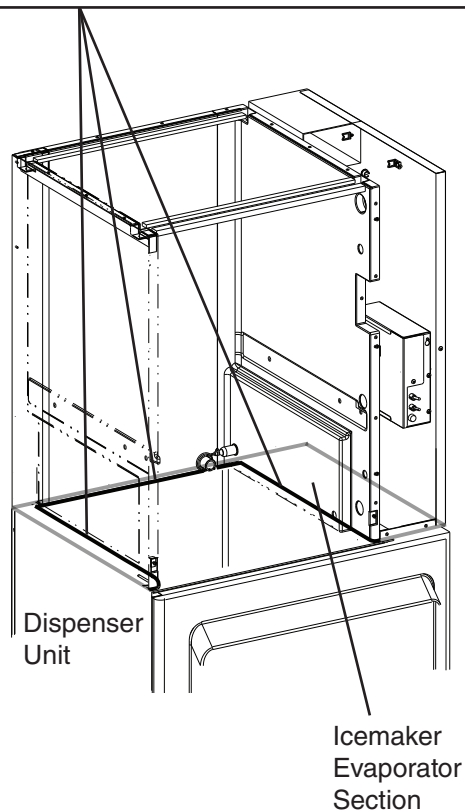

Fig. 9
- 7) Dispenser Unit: Seal the inner perimeter of the icemaker evaporator section to the dispenser unit adapter kit with RTV-748 sealant (provided) or equivalent. See Fig. 9. Make sure the inner perimeter sealant meets the outer perimeter sealant and that there are no gaps.